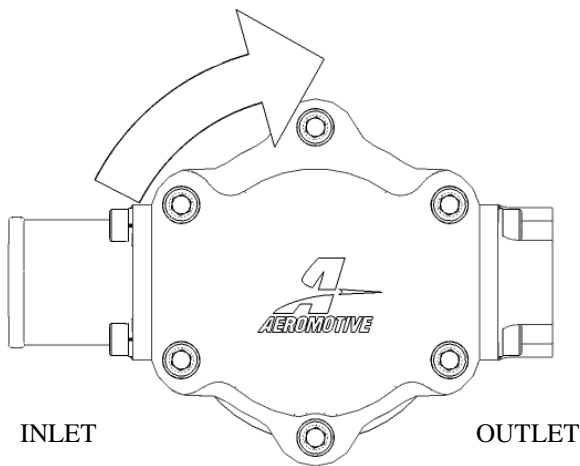
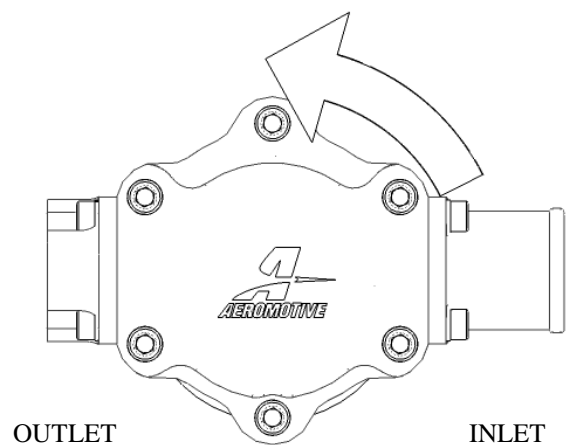

Figure 1a
Figure 1b
5. Determine which direction the fuel pump shaft will rotate. The direction the shaft is rotated will determine which port is the inlet and which is the outlet. Using Figure 1a & 1b as a reference identify the fuel pump inlet and outlet ports. If the fuel pump shaft is rotated in a clockwise direction as viewed from the front of the pump the inlet and outlet ports will be as shown in Figure 1a. If the fuel pump shaft is rotated in a counter-clockwise direction the inlet as shown in figure 1a now becomes the outlet and the outlet in figure 1a is now the inlet, this is shown in figure 1b.